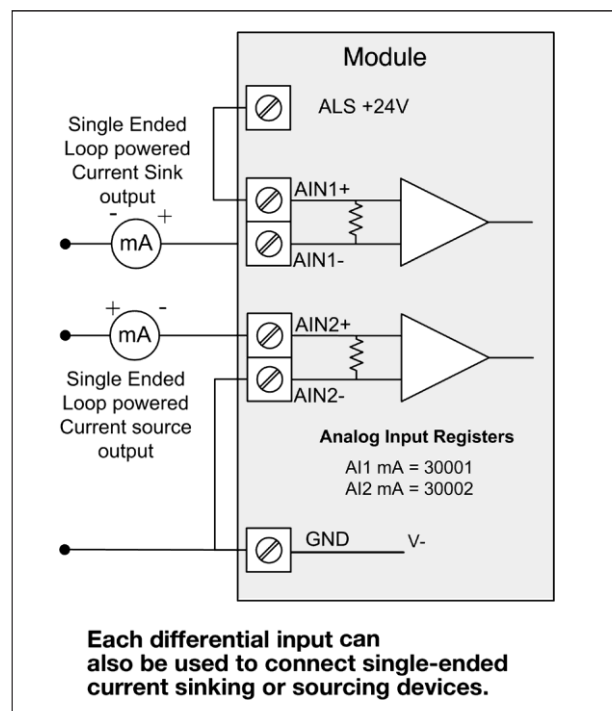

Figure 15. AI1 and AI2 single-ended current inputs
**Figure 15** shows how to connect to these types of devices.